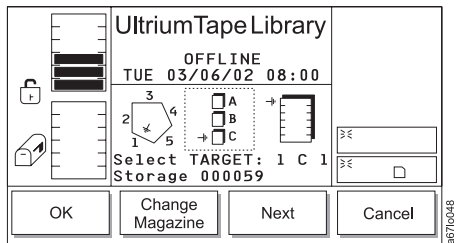

Figure 4-31. Change Magazine Dialog
- a. Press the button below the **Change Column** softkey until the arrow in the left icon points to the column that you want. Press the button below the **Next** softkey. The Change Magazine Dialog displays (see Figure 4-31).